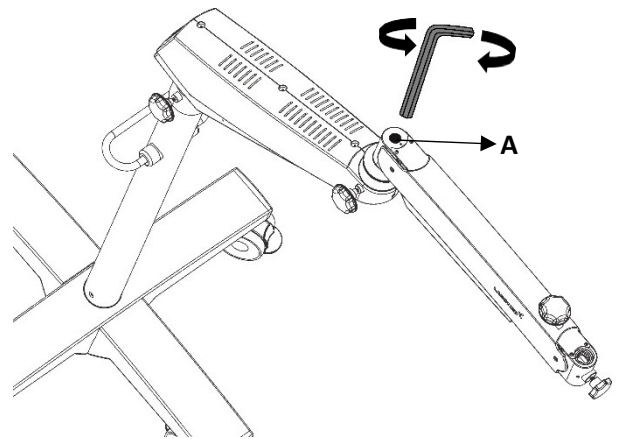

Fig. 23
- a. Use an 8mm allen wrench in bolt **(A)** referring Fig. 23. Rotate it clockwise to increase the tension as desired. Rotate it counterclockwise to decrease the tension as desired.